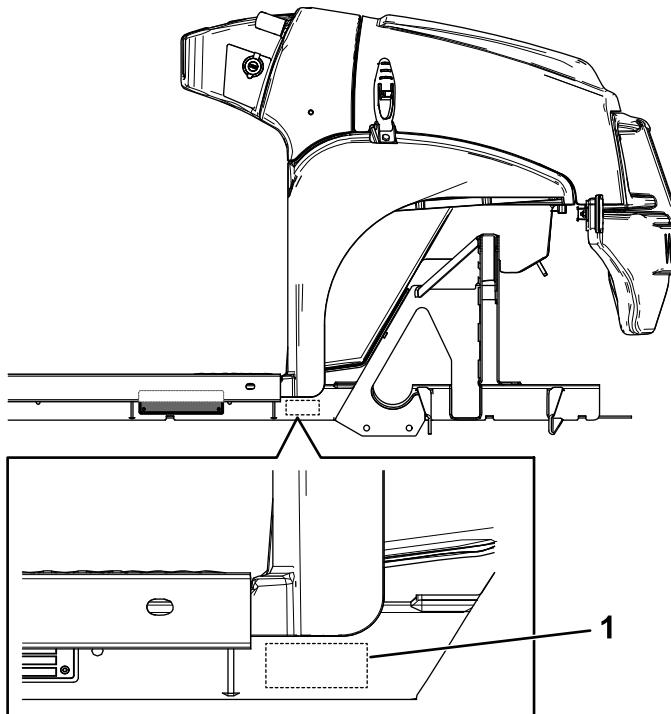

Figure 7
2. Stamp the serial number on the machine in the location shown in Figure 7.